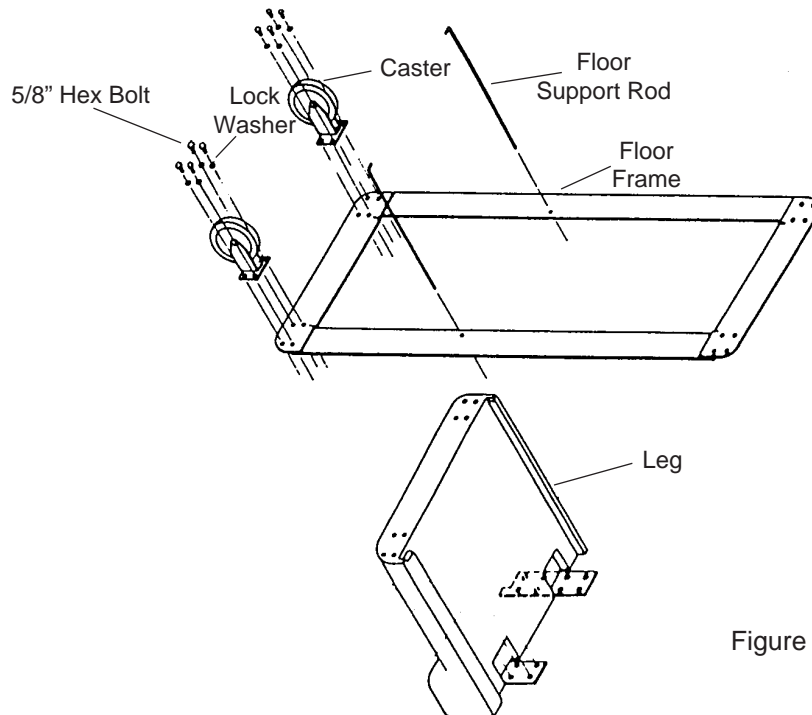

Figure 1
Step 4: With casters off, position Floor Frame over legs with door runner track facing basin track on underside of basin (see Figure 1).
Step 9: Insert short end of L-shaped Floor Support Rod and pass a section of the Rod downward until the Rod can be positioned under threaded insert in basin (see Figure 1).